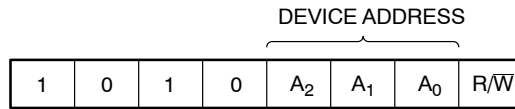

Figure 3. Slave Address Bits
The Master initiates data transfer by creating a START condition on the bus. The Master then broadcasts an 8-bit serial Slave address. The first 4 bits of the Slave address are set to 1010, for normal Read/Write operations (Figure 3). The next 3 bits, A₂, A₁ and A₀, select one of 8 possible Slave devices and must match the state of the external address pins. The last bit, R/ \bar{W} , specifies whether a Read (1) or Write (0) operation is to be performed.